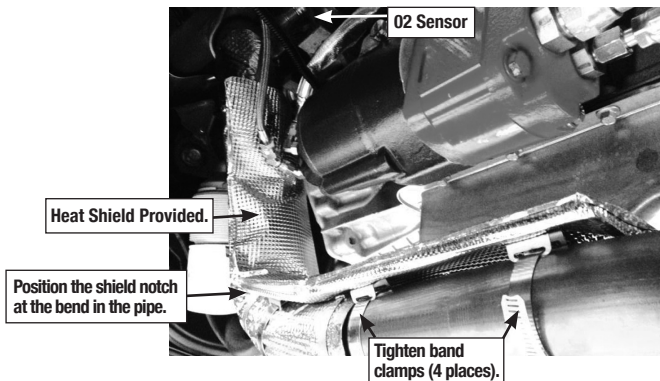

Fig. 3
6. Gently bend the shield along the top of the exhaust so that it is between the exhaust and the PTO. Note the location of the notch shown on figure 3.